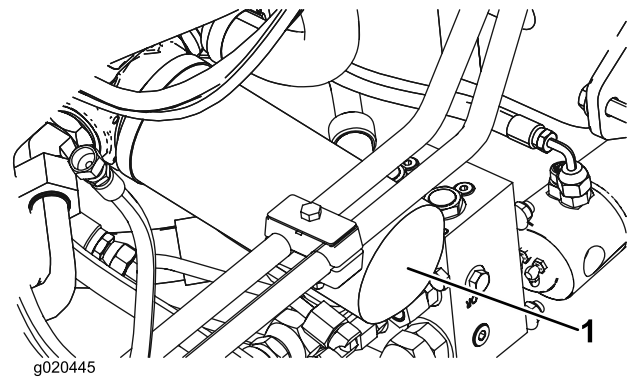

Figure 72
2. Clean the area around the filter mounting areas. Place a drain pan under the filter and remove the filter (Figure 72).